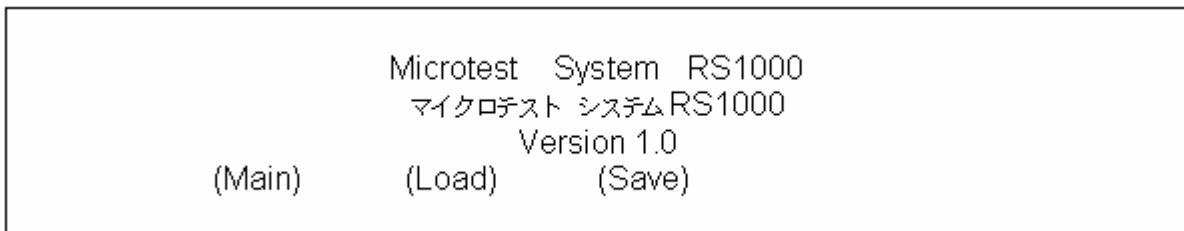

Fig. 02
**Step 1:** Turn on the RS1000 tester system by switching on the power switch. The following screen will first appear on the LCD display. (Fig. 02)
The PC will only recognize the tester when the USB cable is connected on the first LCD screen as shown in Fig. 02.